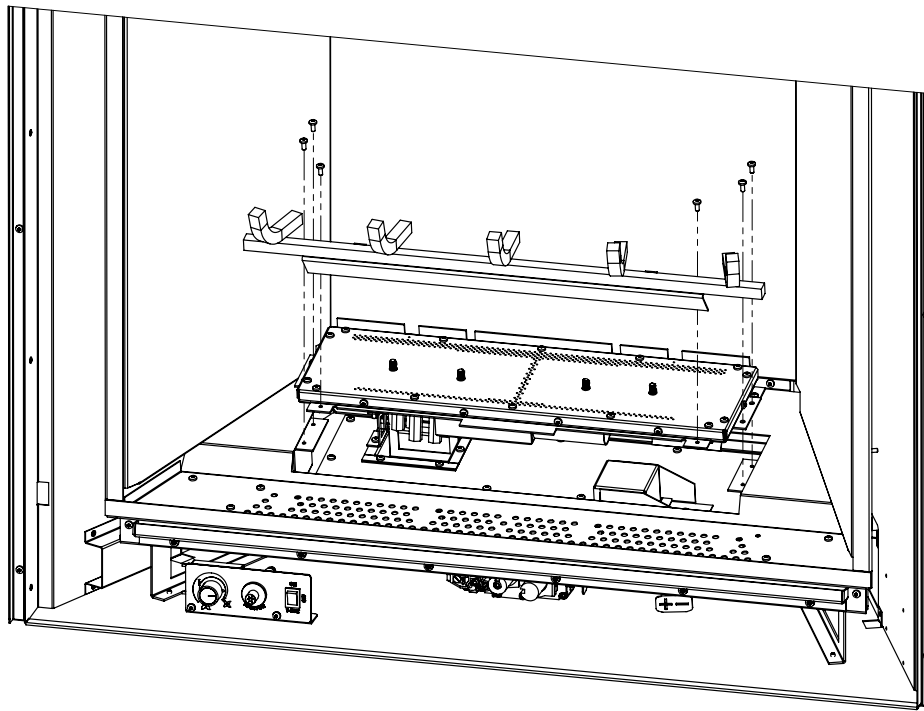

Figure 21: Front Burner Removal
6. Remove the four T-20 screws securing the burner pan (see Figure 21). Slide the pan to the left and lift out. Reassemble in the reverse order.